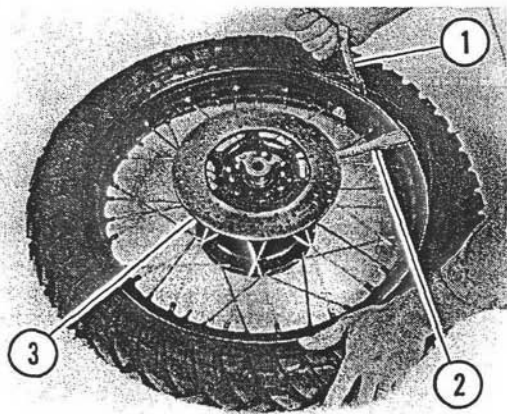

Figure 5-52. Pulling Tire Bead Over Edge of Rim
9. See Figure 5-52. With one tire iron (1), begin to pull tire bead over edge of wheel rim. Stop and place second tire iron (2) under disc (3) and tire bead to prevent bead from slipping back onto wheel rim.